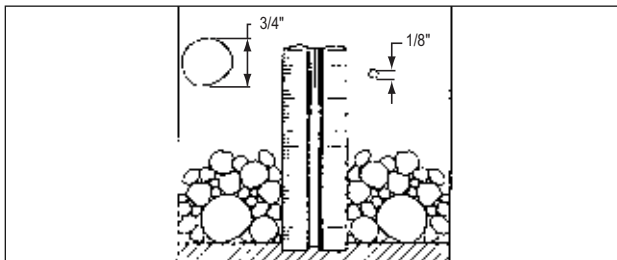

FIGURE 5-1
5.1.3.2. When using pea gravel, the material is to be a mix of rounded particles, sizes between 1/8 inch and 3/4 inch. (See FIGURE 5-1.) The pea gravel must conform to the specifications of ASTM C-33, paragraph 9.1, sizes 6, 67 or 7.